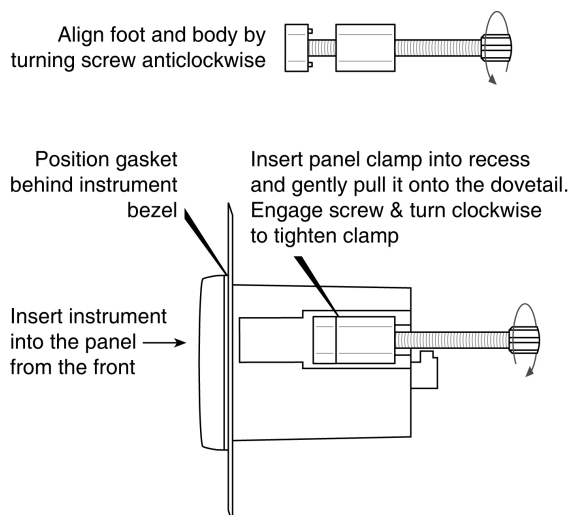

Fig 5 Fitting panel mounting clamps
- Place a clamp in the recess on each side of the indicator, pulling gently to slide it onto the dovetail as shown in Fig 5. Push the knurled screw slightly forward to engage the thread and tighten by turning clockwise until it is just finger tight. When both clamps are fitted ensure that the gasket behind the front panel bezel is correctly positioned before fully tightening the clamps to secure the instrument. The maximum recommended clamp tightening torque is 22cNm (1.95 lbf in) which is approximately equivalent to finger-tight plus one half turn. **Do not over tighten.**